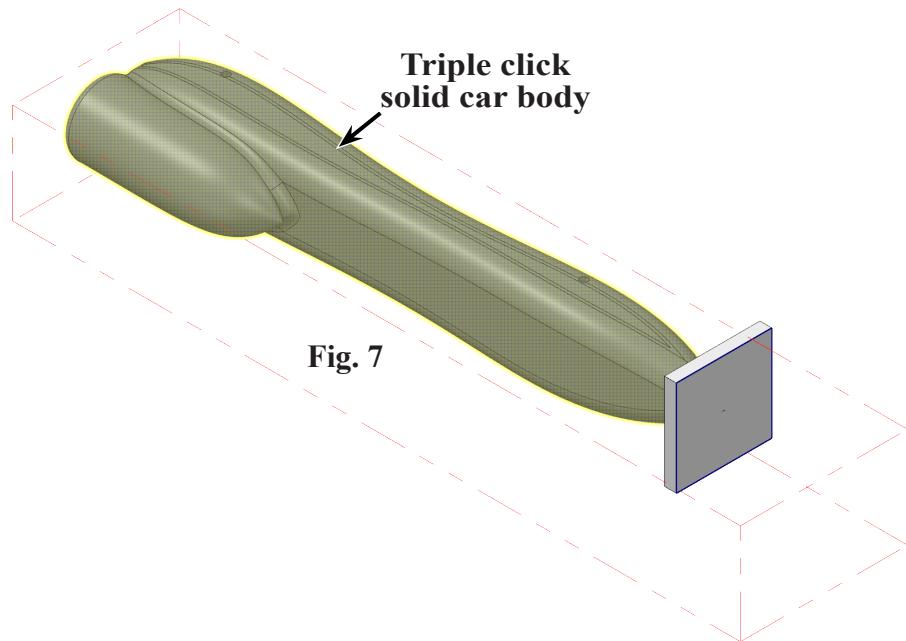

Fig. 7
Step 3. Triple click the **solid car body** to select as machine geometry and click **End Selection**  **(ENTER), Fig 7.**